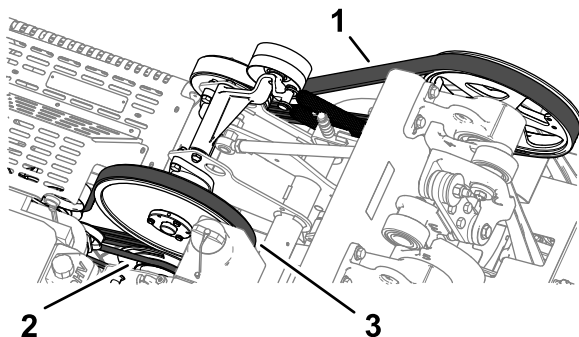

**Figure 164**
2. Inspect the hydraulic-pump, jackshaft, and crankshaft belts (Figure 164) for damage, wear, excessive cushion cracks, or large embedded debris.